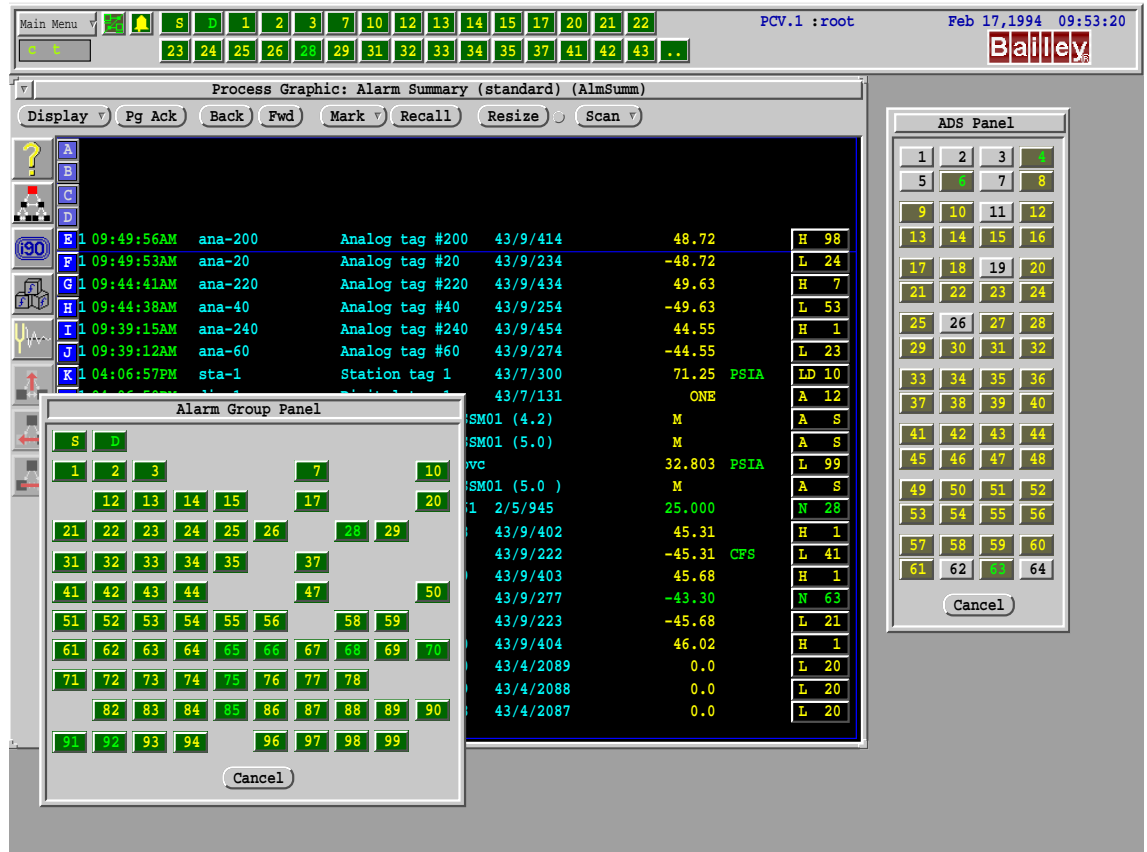

Figure 3-6. Alarm Group Panel
Pressing the right mouse button on the alarm icon button will display the Alarm Management menu. Selecting option **A** will display the general alarm summary. Selecting option **B** will display the Alarm Group Panel that shows the alarm status of the 99 alarm groups plus the status alarm group (S) and device alarm group (D) (Figure 3-6).
Selecting option **C** of the Alarm Management menu will display the ADS Panel or window (Figure 3-6).
The Current Server Name is displayed on the top line to the right of the Alarm Group button. For example: In Figure 3-6, the Current Server Name is “PCV.1”
This is the name of the current user logged onto your node. For example: In Figure 3-6, the Current User Name is "root".